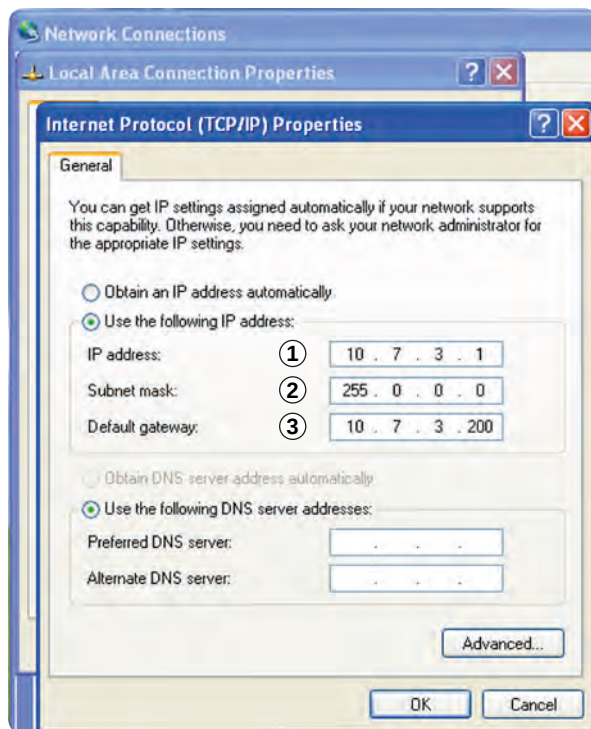
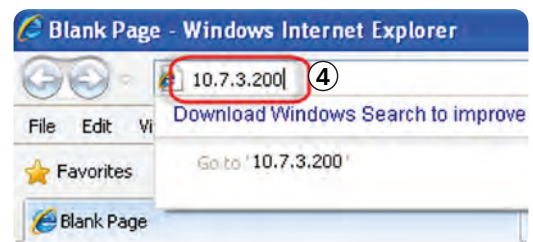

Fig. 1: Set TCP/IP properties master
Fig. 2: Browser address bar
2. Input the TCP/IP properties as follows (Fig. 1):
- IP address ①: 10.7.3.1 to 10.7.3.254 (except for 10.7.3.200!)
- Subnet mask ②: 255.0.0.0
- Default gateway ③: 10.7.3.200 (= IP address of master C-hub)
5. Open the browser and enter 10.7.3.200 (default gateway address) into the address bar ④; see example in Fig. 2.